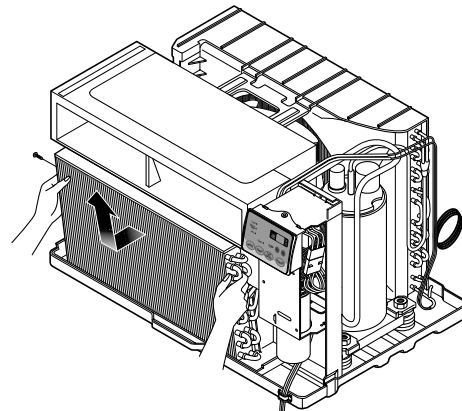

FIG. 16
6. Re-install the components by referring to notes. (See Fig. 16)